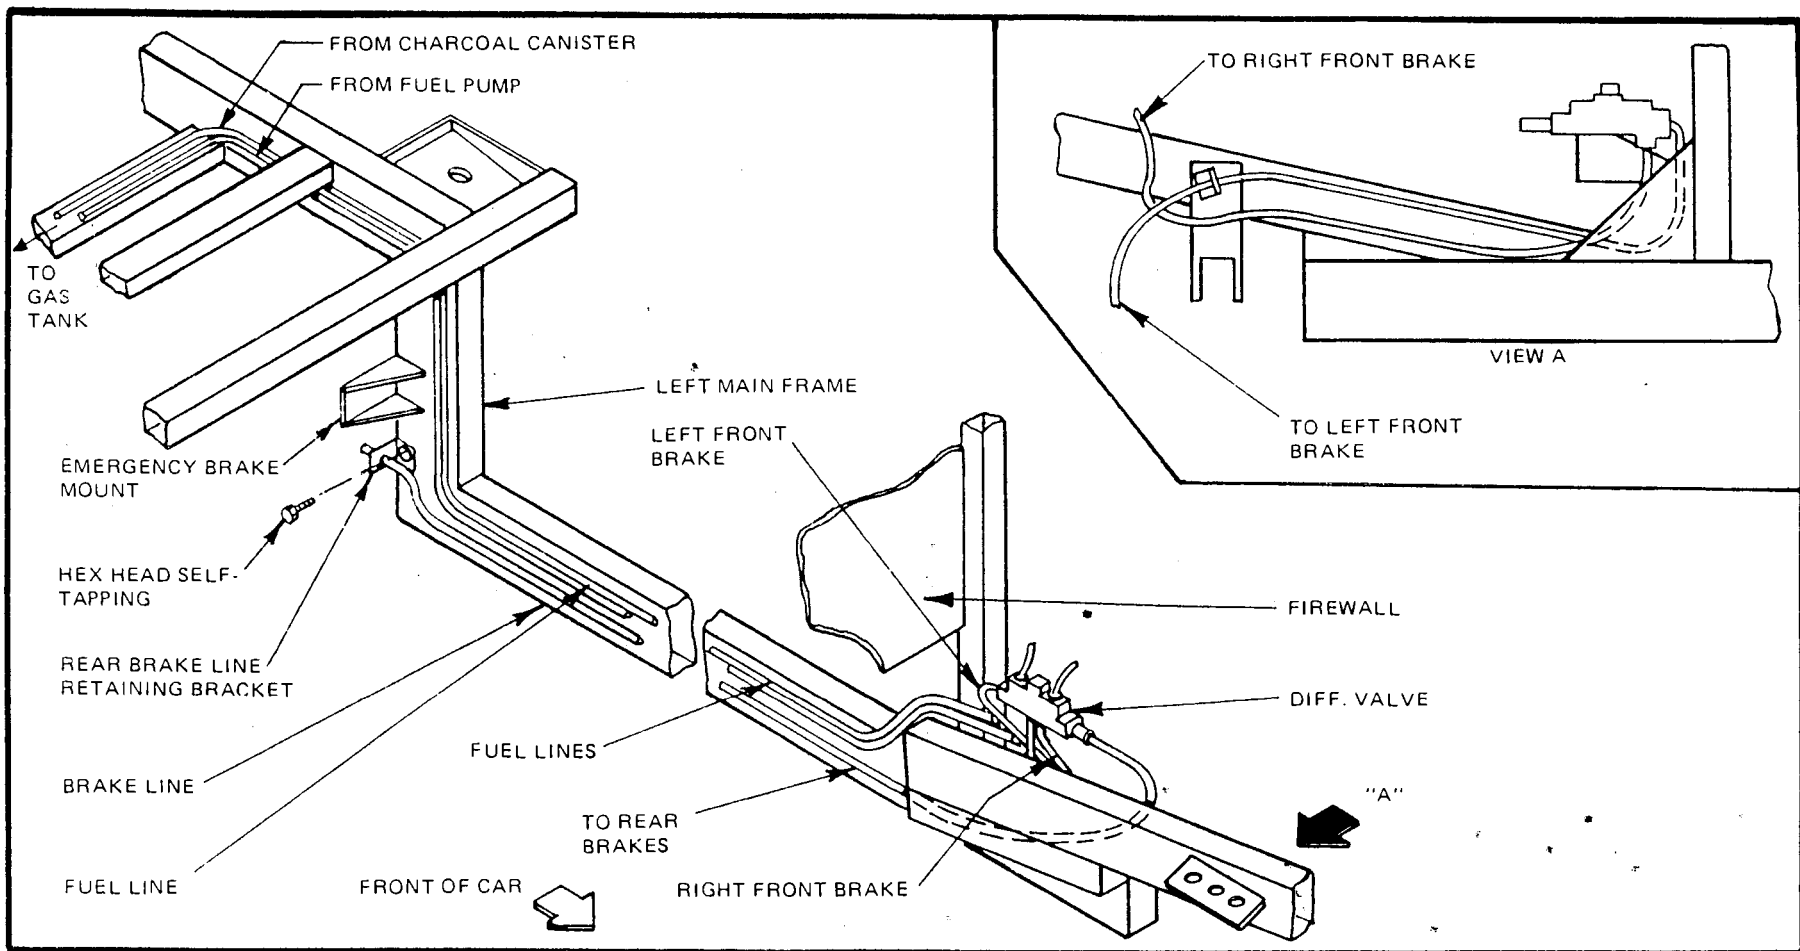

Figure 9
- Attach rear brake line retaining bracket, removed from Chevette, to frame directly under the emergency brake mount. (Figure 9) Drill 1/4" hole and secure with 5/16 x 1" self-tapping bolt. Termination of lines should coincide with diagrams.
- Route right front brake line over frame and secure to cross member. Attach front brake hose mounts to frame just behind cross member. Drill 1/4" holes and secure with 5/16 x 1" self-tapping bolts. (Figure 9) Fill master cylinder with brake fluid and bleed system. Gas tank will be installed later after rear bumper brackets are attached. Fuel lines will be hooked up then.